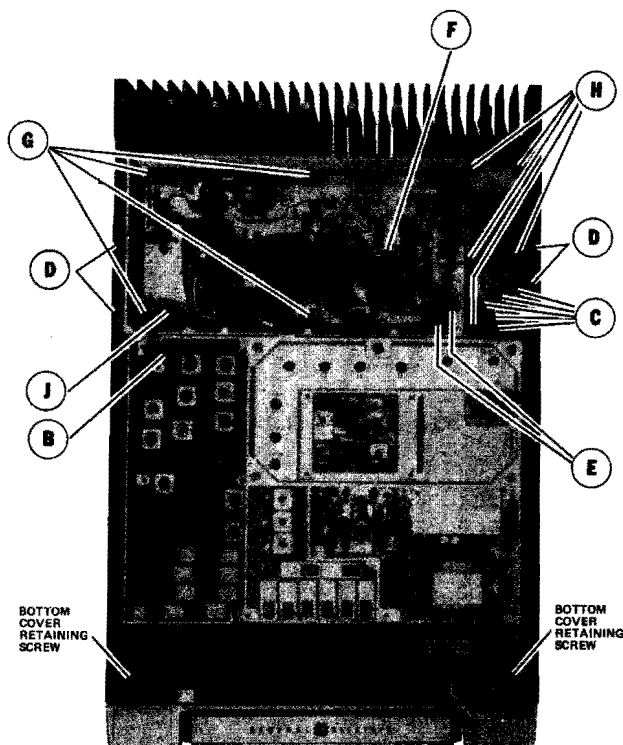

Figure 5 - Disassembly Procedure
2. Remove the top cover, then loosen the two bottom cover retaining screws and remove the bottom cover (see Figure 5).
3. To gain access to the bottom of the exciter board, remove the six screws (A) holding the exciter board and its bottom cover to the module mounting frame, and remove the bottom cover.